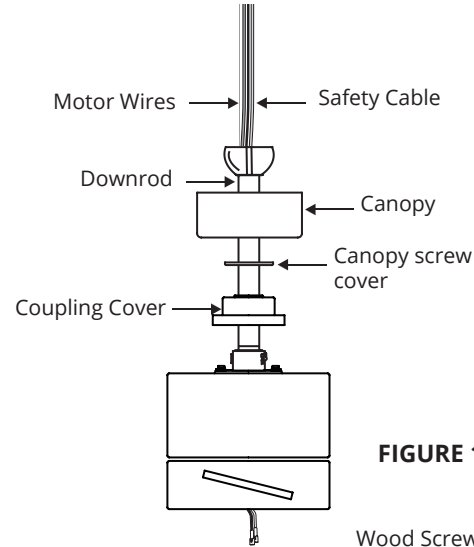

FIGURE 10
1. Slip the coupling cover, canopy screw cover (painted side face down), and canopy (opened side up) onto the downrod. (Fig. 10). Coupling cover goes all the way to the bottom.
2. Carefully reinstall the hanger ball onto the downrod, being sure that the cross pin is in the correct position, the setscrew is tightened and wires are not twisted. (Fig. 10)